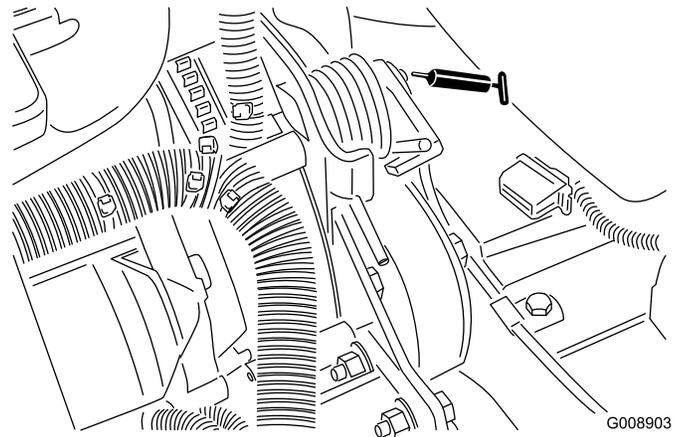

Figure 38
- Belt tension pivot (Figure 38)